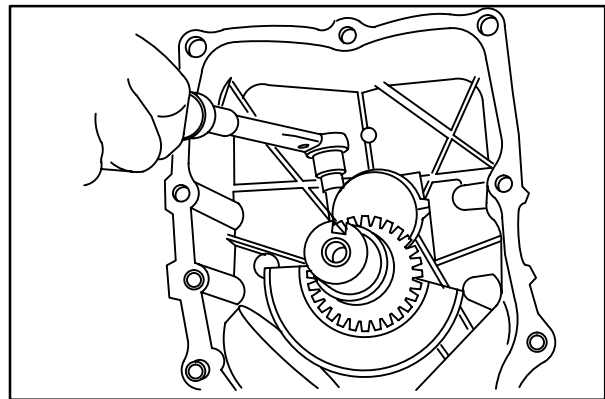

Fig. 4
4. Assemble connecting rod cap to rod with match marks aligned, **Fig. 4**. Torque screws to **115 in. lbs. (13 Nm)**.